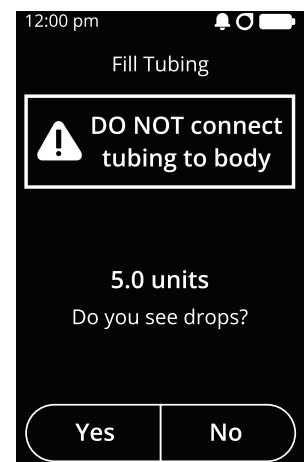

Figure 66
- c. Tap **Yes** if you see drops without air bubbles in your tubing (see Figure 66). Tapping **No** will take you back to the **Press & Hold** screen.